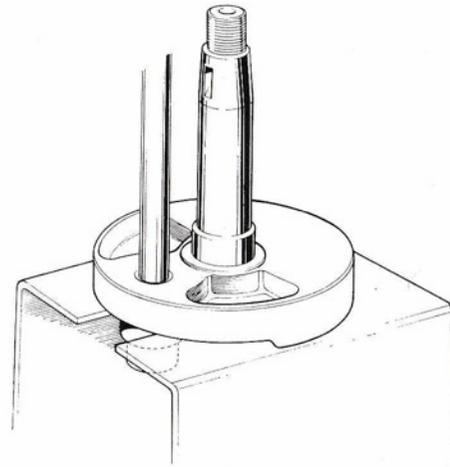

Fig. 17 Supporting second crankcheek to remove crankpin.
- 4 Place a suitable press tool on the crankpin, taking particular care that the tool does not overlap the crankpin for otherwise the crankcheek bore will be damaged. Now apply the press to push the crankpin (still captive in the lower crankcheek) out of the upper crankcheek (see *Fig. 17*).